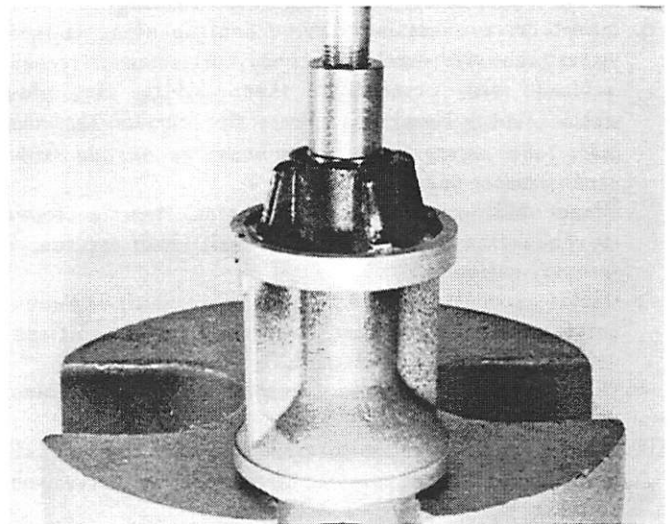

Figure 12. Installing Roller Bearings in Carrier
1. Press or tap roller bearing into bearing carrier from rear of housing with Driver Head (91-37311). (Figure 12)